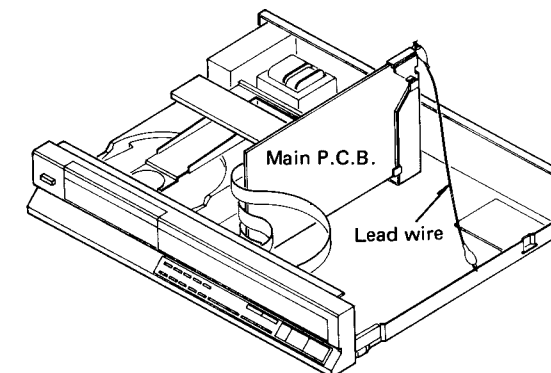

Fig. 20
- (1) Remove the 3 setscrews of the main P.C.B.
- (2) Place the main P.C.B. as shown in Fig. 20.
Note: When checking as in Fig. 20, be sure to connect the ground spring of main P.C.B. to the chassis lead wire.